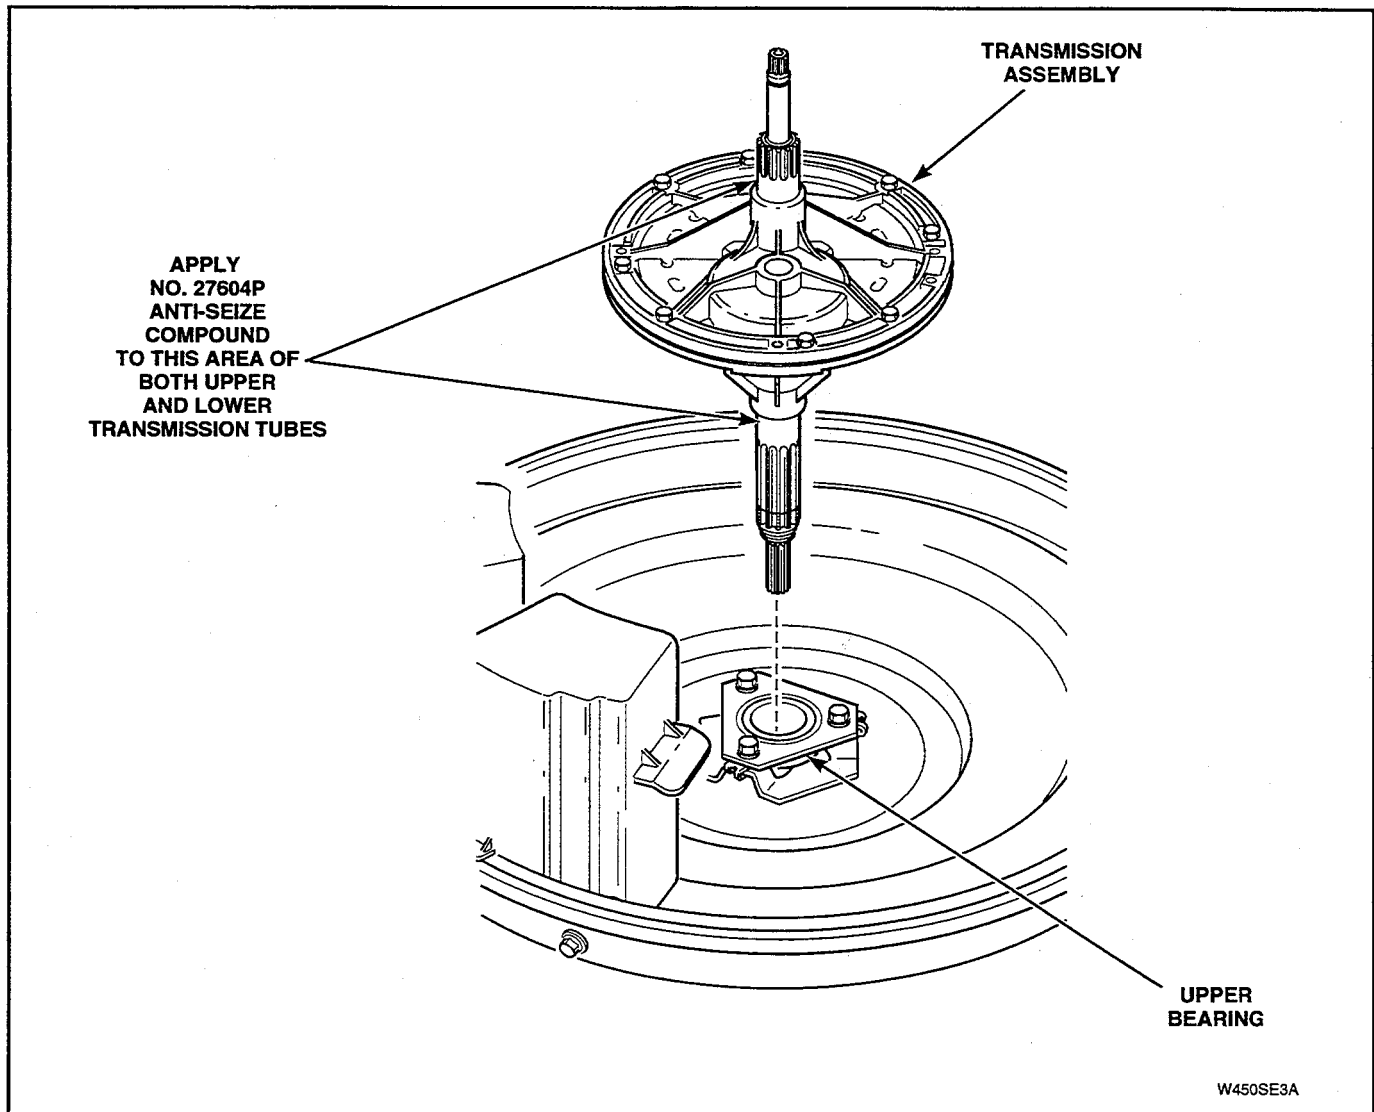

Figure 5-36
NOTE: When installing lower bearing, weldment assembly and brake assembly, apply No. 27604P Anti-Seize Compound to area of transmission tube that will be contacting bearing. See Figure 5-36.
IMPORTANT: When replacing or reinstalling transmission assembly, it is important that No. 27604P Anti-Seize Compound be applied to area of the transmission tubes where they will be contacting upper and lower bearings. See Figure 5-36.
- q. Apply Anti-Seize Compound, No. 27604P, to smooth area of both transmission tubes that will be contacting upper and lower bearings. See Figure 5-36.